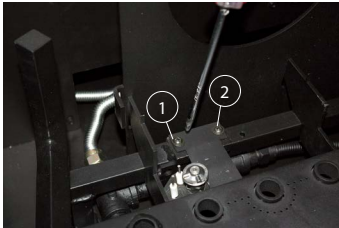

Figure 20. (Pilot mounting machine screws).
Step 2. Remove the two (2) machine screws that hold the Pilot Assembly in place, **Figure 20. (Philips head screwdriver required).**
Step 1 & 2. Figure 20. (Pilot mounting machine screws).